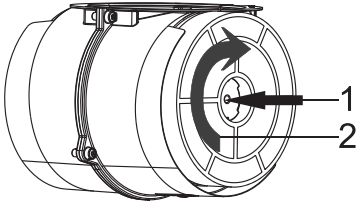

Fig. 6: CARBON FILTER
- 1-Place the carbon filter in its housing. (Fig. 6)
- 2-Rotate the carbon filter clockwise and make sure that it is seated completely. (Fig. 6)